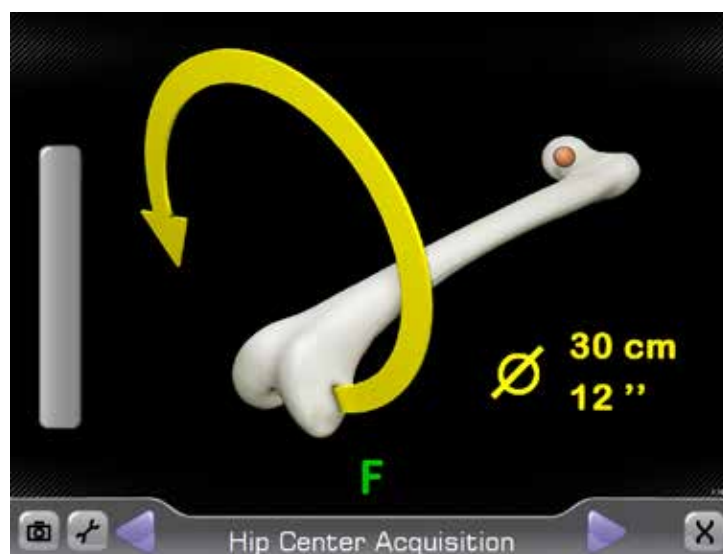

Figure 11
The *Hip Center Acquisition* screen is displayed (Figure 11). Press the forward button on the display unit or alternatively, press the forward button on the Probe Tracker (P)) to initiate the acquisition process. Move the knee in a 12-inch diameter circular pattern as illustrated on the display.